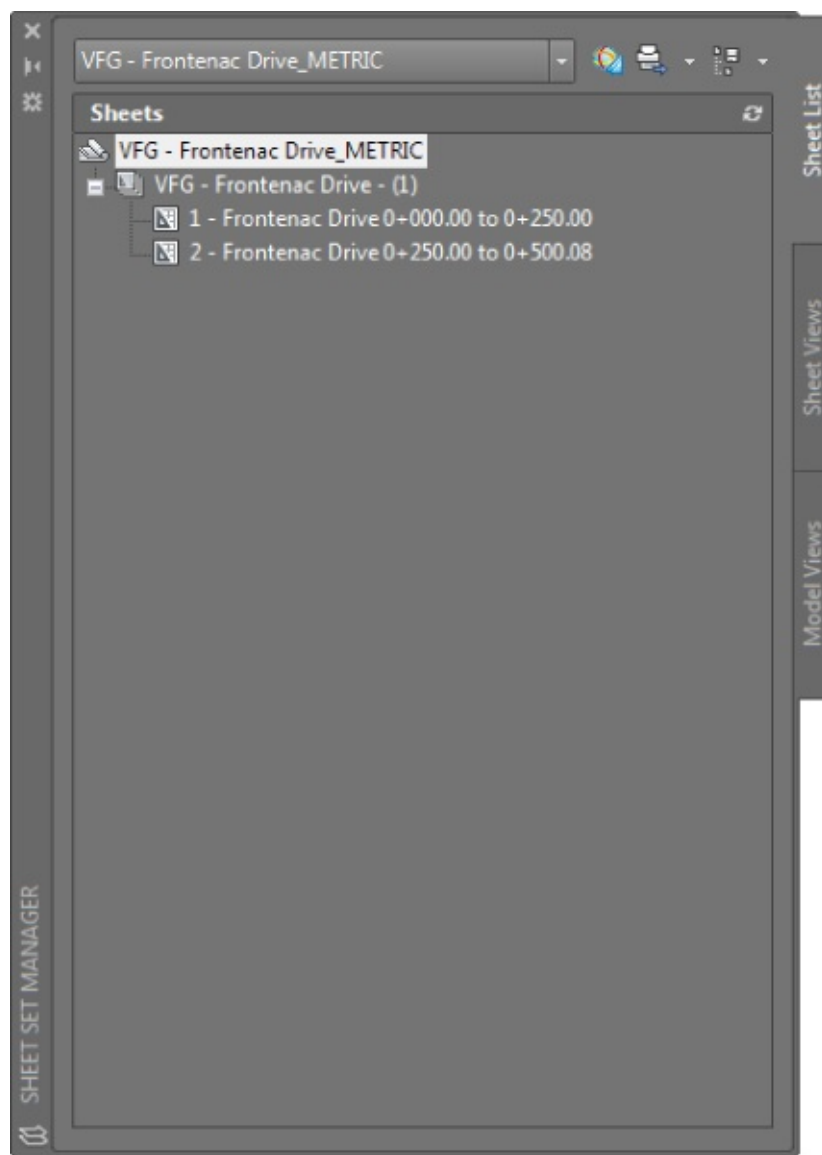

Figure 15.20 Sheet Set Manager once the sheet-creation process is complete
11. Click the first sheet of the sheet set shown in Figure 15.20, named Frontenac Drive 0+00.00 to 4+78.00 (or Frontenac Drive 0+000.00 to 0+250.00 for metric users).